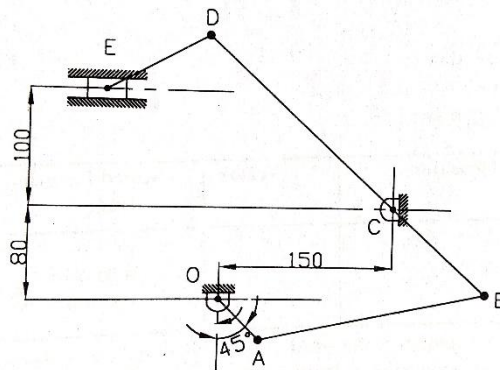

Fig. 1
- A) Fig. 1 shows part of an opposed piston engine mechanism. The velocity of the piston E for the given instant is 780 mm/s. the crank OA rotates at a uniform speed in a clockwise direction and makes an angle of 45° to vertical as shown in Fig. 1. Draw a velocity diagram and determine the speed of the crank in rpm. OA= 50mm, AB= 200 mm, BC= 110 mm, CD= 220 mm and DE= 100 mm. **Apply 6**
Fig. 1 shows part of an opposed piston engine mechanism. The velocity of the piston E for the given instant is 780 mm/s. the crank OA rotates at a uniform speed in a clockwise direction and makes an angle of 45° to vertical as shown in Fig. 1. Draw a velocity diagram and determine the speed of the crank in rpm. OA= 50mm, AB= 200 mm, BC= 110 mm, CD= 220 mm and DE= 100 mm.